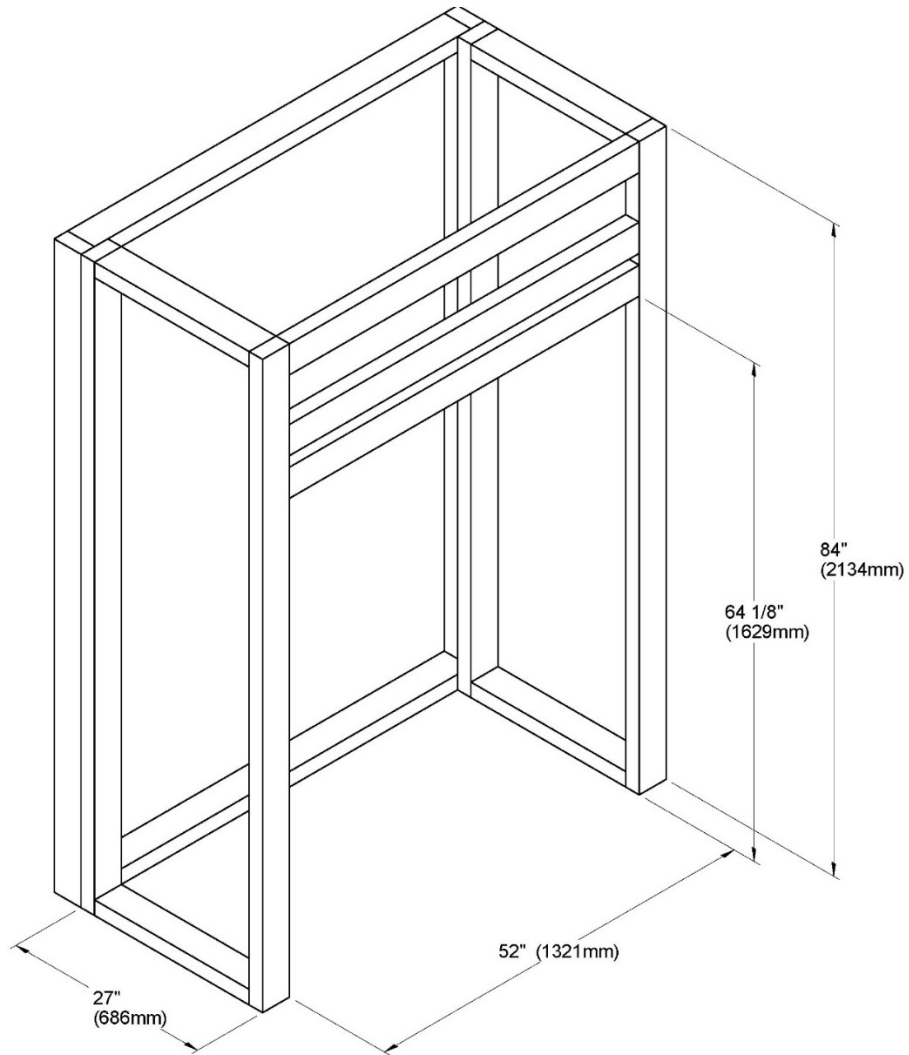

Figure 15
B. Frame the fireplace with vertical studs on each side of the fireplace running from floor to ceiling (see Figure 15). Position the studs back from the front edge of the fireplace, leaving a space the thickness of the facing material so that the facing can be installed flush with the fireplace facing (within limitations of **Figure 15**). Frame headers between the vertical studs only as follows: